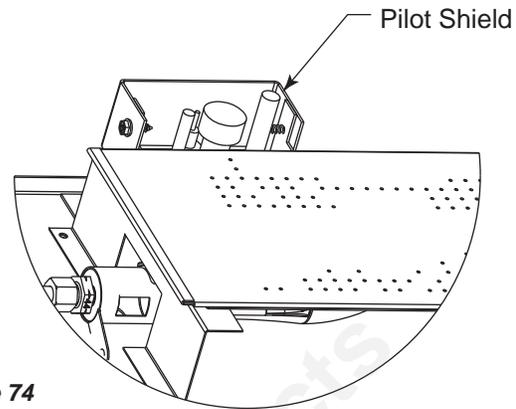

Figure 74
5. Remove the four (4) pin log plate assemblies by removing the two (2) screws on each assembly. Discard. **NOTE:** There is a right front pin log plate assembly, a left front pin log plate assembly and two (2) rear pin log plate assemblies.
6. Loosen two (2) pilot screws.
7. Install the extra pilot shield provided with the kit by sliding it down between the front of the pilot and the burner. Fasten the shield using the two (2) screws supplied in kit. *Figure 74*